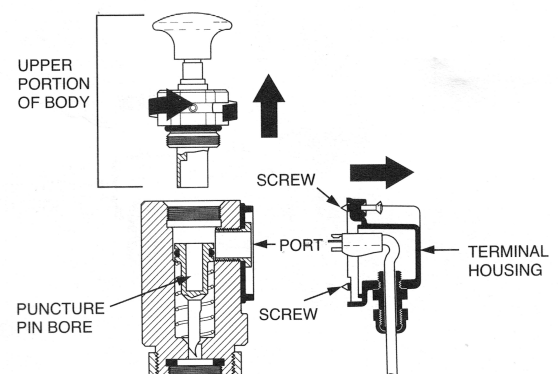

FIGURE 3
4. Back out the two (2) screws holding the Terminal Housing and Cable Assembly to the actuator body assembly and remove the terminal housing (the screws are captive screws and should remain secured in the terminal housing cover). This will expose the port in the side of the actuator body assembly and the connector on the inside of the terminal housing. See Figure 3.
5. Unscrew the upper portion of the actuator body to expose the bore in the top of the puncture pin. See Figure 3.